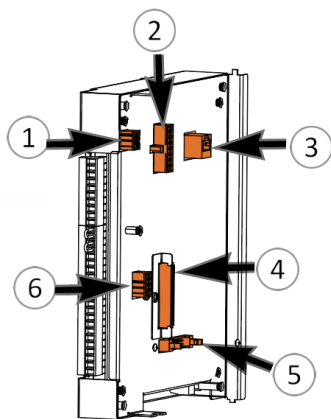

Figure 1: CX Control Board Connections
- a. remove and set aside both the screw and retaining bracket (G) that secures the connector (4) (see Figure 1)
3. Remove the two screws (H) that secure the CBI control board (A) from the back of the chassis (F), and set aside.
4. Remove the four screws (C) that secures the controller front cover (B) to the control module (E), and set aside.
5. Remove the four screws (D) that secure the controller to the back chassis, and set the screws aside.